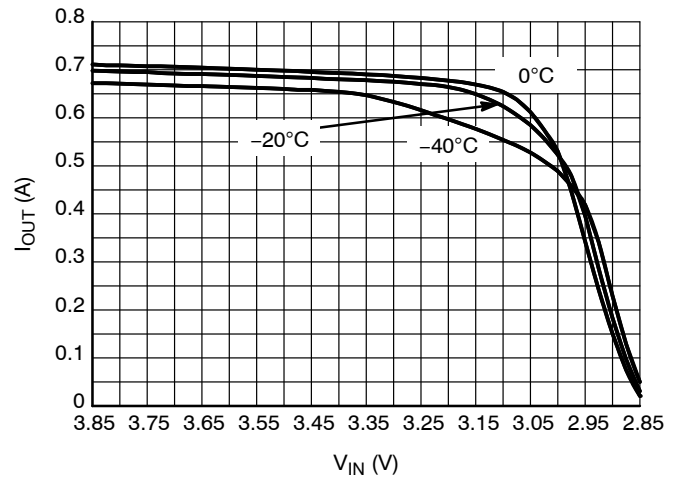

Figure 18. Output Current Capability for the 2.85 V Version
26. For output current capability for $T_A < 0$ °C, please refer to Figures 18 to 22.